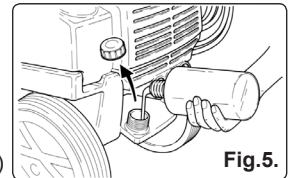
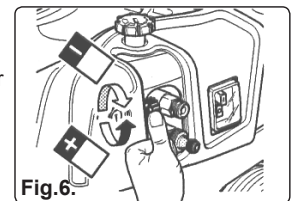
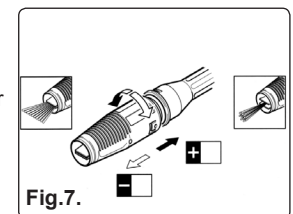

Fig.5.
Fig.6.
Fig.7.
4.1.1 Fill the detergent tank to the level indicated with a cleaning fluid such as Sealey AK131 General Purpose Detergent or Sealey AK133 Traffic Film Remover (fig.5). Where the clear pipe is attached to the washer you will find an adjustment wheel which controls the water/detergent mix (fig.6). When turned fully clockwise (when viewed from the front of the machine) no detergent is dispensed. As you turn the control anti-clockwise the fluid is progressively introduced. The lance nozzle must be set to the low (-) pressure position when using detergent (fig.7).
4.2.1 Using the large ribbed knob on top of the unit (fig.6) set the water output pressure to a midway setting.
4.3.1 The nozzle must be set to the low (-) pressure position when using detergent. (See fig.7.) Grip the gun firmly to counteract the recoil of the water jet and aim at the working surface. On vertical surfaces work from the bottom upwards. Apply the detergent mix to the working surface and leave the detergent to act for 1 to 2 minutes, but do not let the surface dry out. Turn the detergent control fully clockwise to shut off the detergent flow and rinse the surface with clean water at high pressure, keeping the nozzle a minimum of 30cm from the surface and using the fan spray. For stubborn deposits reduce the fan to a pencil spray setting (See fig.7).